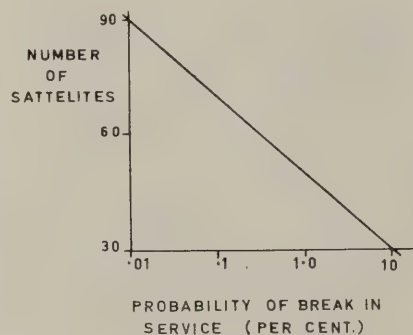

FIG.3 SERVICE DETAILS FOR 6500-MILE EQUATORIAL ORBIT.
Figure 3 shows in graphical form the probable service loss for such a random system.
The attractive feature of a random system, or any system, with a large number of satellites is that the failure of one or two does not mean a great loss in service time. Published opinion (ref. 2) is that 99% is a reasonable probability and from figure 3 49 satellites would provide this. Against this is the cost of such a number of satellites and the final chance of a small number, up to 12 (in synchronous or sub-synchronous orbit), of high reliability or a larger number perhaps of a power less in reliability has yet to be resolved.